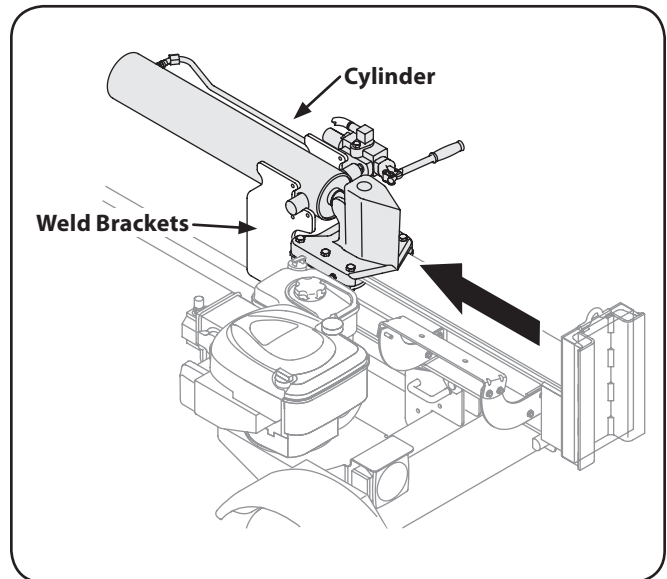

Figure 3-6
4. Lift and slide the cylinder up to the top of beam and into the weld brackets. See Fig. 3-6.